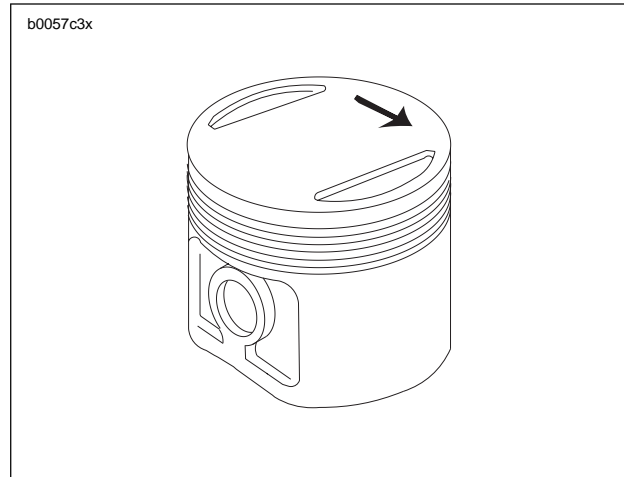

**Figure 3-90. Removing Piston Pin Circlip**
8. See Figure 3-90. Remove the piston pin circlip as follows: